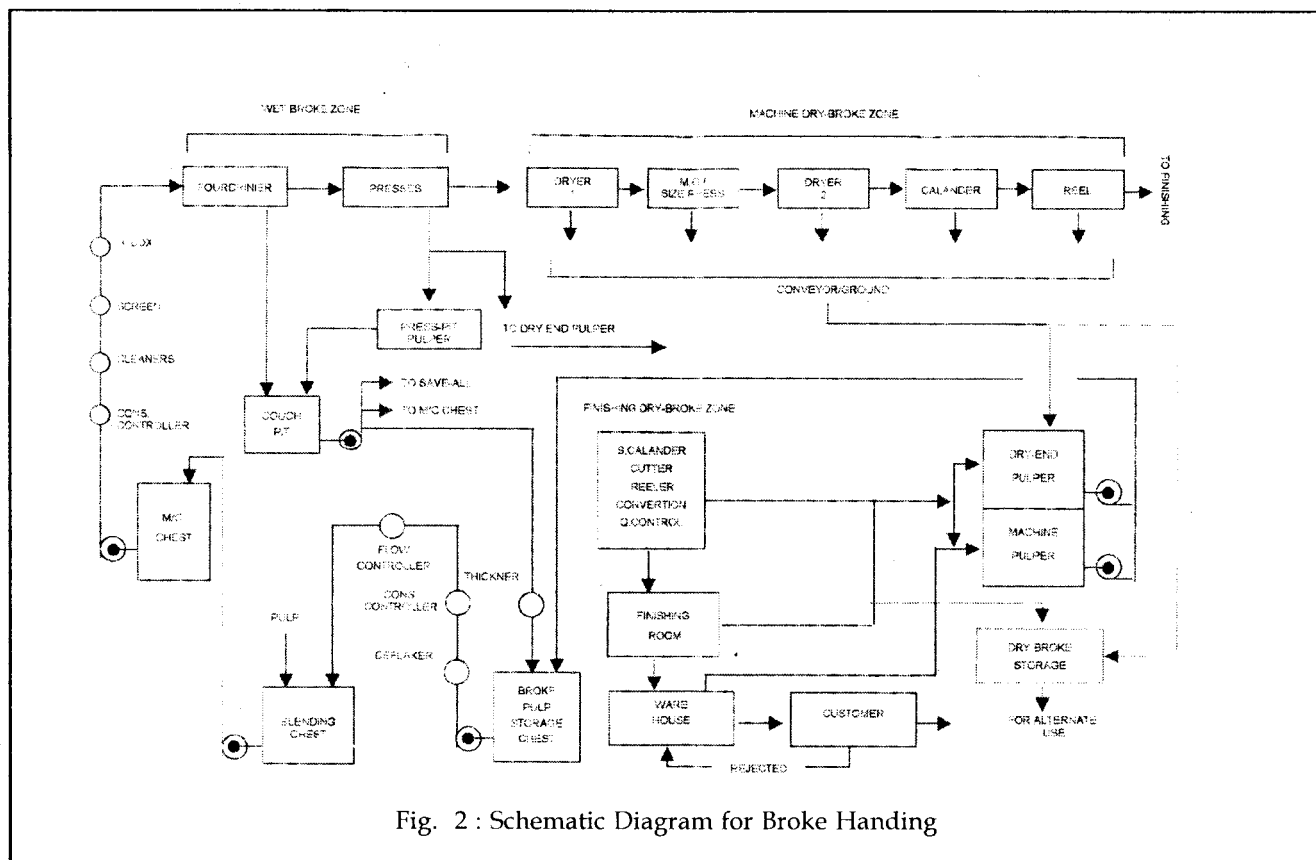

Fig. 2 : Schematic Diagram for Broke Handling
A). As can be seen from Fig.2 wet broke is generated in wire-part and wet presses. Wire edge-trims though a small quantity gets generated continuously as long as
The points of dry broke generation as can be seen from Fig. 2 are many.
Paper making experts are of the opinion that 6 to 8% of broke pulp in the furnish, affects the quality considerably. However this does not include the wet broke and save-all recovery. If for some reason there are some abnormal breaks in the wet end, the wet broke's effect on the quality cannot be ignored. In some speciality paper except for wet broke pulp, no dry broke pulp can be used and as such the entire dry broke is to be stored for some alternate use. To avoid these complications, one common broke pulp chest can be made for both the wet broke and dry broke for each machine separately. The pulp from this chest is added to the blending chest at the rate of 10 to 12%. (Fig 2).